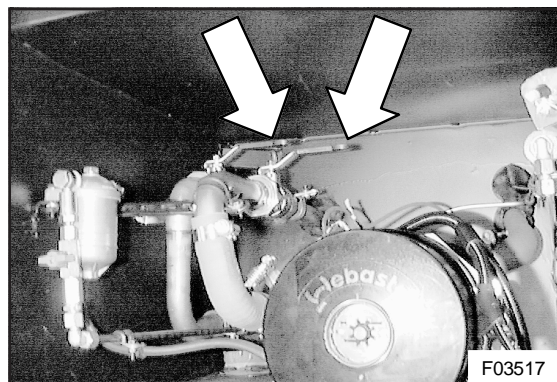

Figure 1: Location of gate valves in T2145 combustion heater compartment
- T2145: both gate valves are located in the combustion heater compartment on the left hand side of the coach (see figure 1).